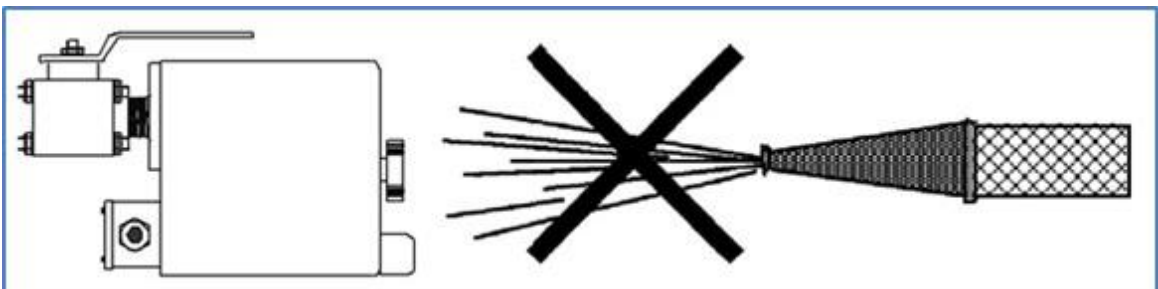

Figure 6-7: Avoid High Pressure Water Streams
11. Do not subject the H201Ti or its sensor to high-pressure water streams (see Figure 6-7 below). Used during the cleaning of transformers, they may cause serious damage.